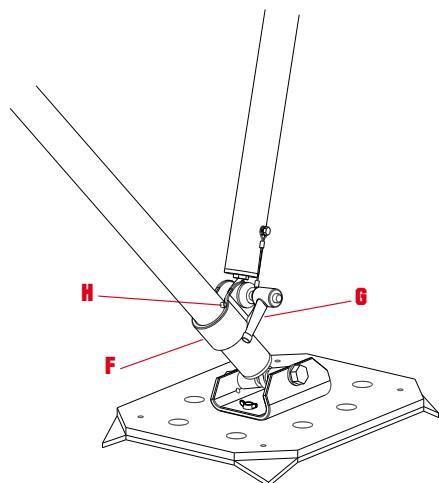

fig. 6
e) Place the collars (F) against the elastic reference marker (H) and fix them by means of the lever lock (G) - (fig. 6).